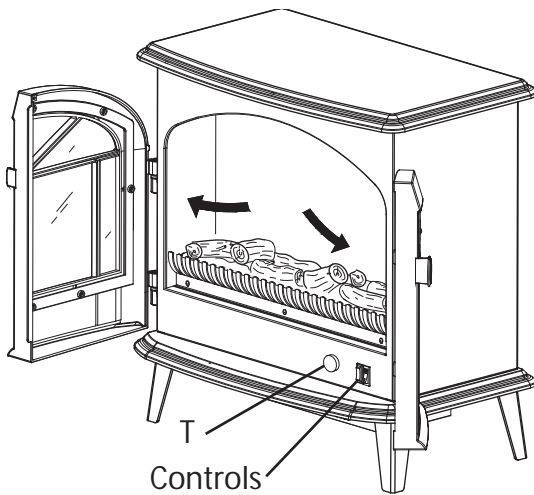

Fig. 2
The controls are located behind the doors (see Fig. 2).
Thermostat (T) - see Fig. 2